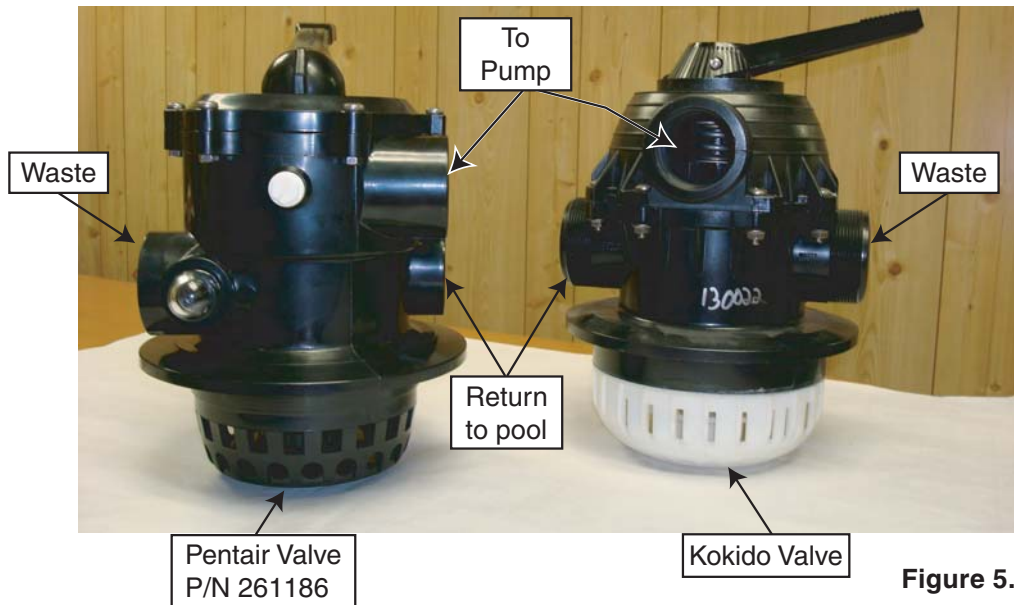

Figure 5.
5. **RE-PLUMB:** Plumbing must be reworked to fit the new valve. See Figure 5 to identify ports and re-plumb as necessary.
7. To convert the P/N 261186 valve with 1½ inch NPT internal threads to unions with 1½ inch slip glue fittings for PVC pipe, requires three (3) adaptors: P/N 354588, and one (1) Union Kit; P/N 150119 – (P/N 150119 Union Kit includes: three (3) P/N 352256 Union Nuts; three (3) P/N 352257 Union 1½ inch slip fittings; and three (3) P/N 354571 O-rings). The individual components of the Union Kit may be purchased separately to convert individual ports if necessary.